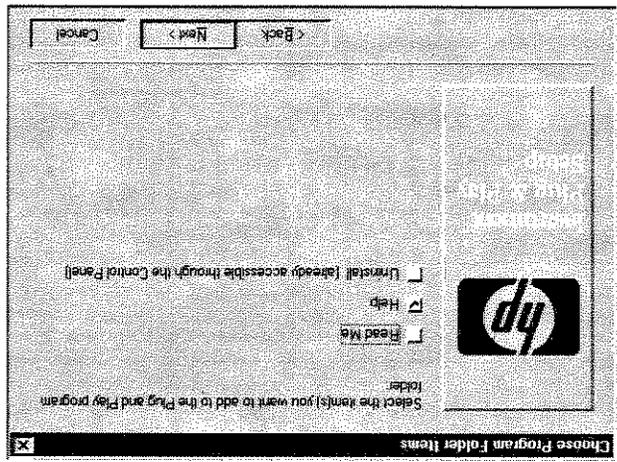

**Figure 10** Customizing Your Setup
**NOTE** If you choose the Custom Setup, you may choose the options you want to install from the screen in Figure 10.